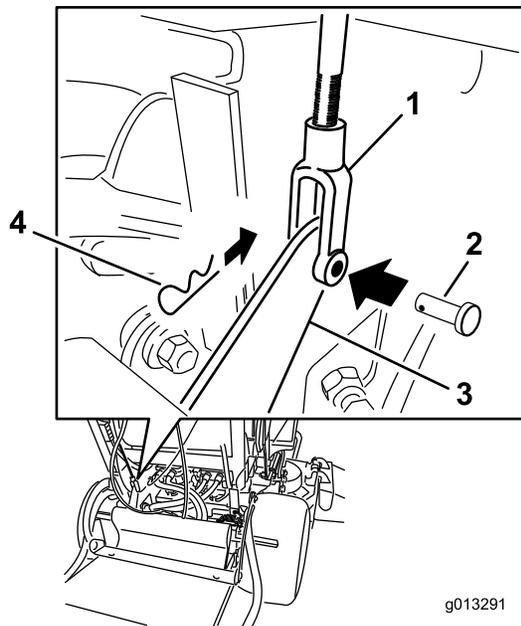

Figure 62
4. To adjust the brake, remove clevis pin and hairpin cotter pin from the lower brake lever and yoke (Figure 62).
7. Secure the yoke to lower brake lever with the clevis pin and hairpin cotter pin (Figure 62).